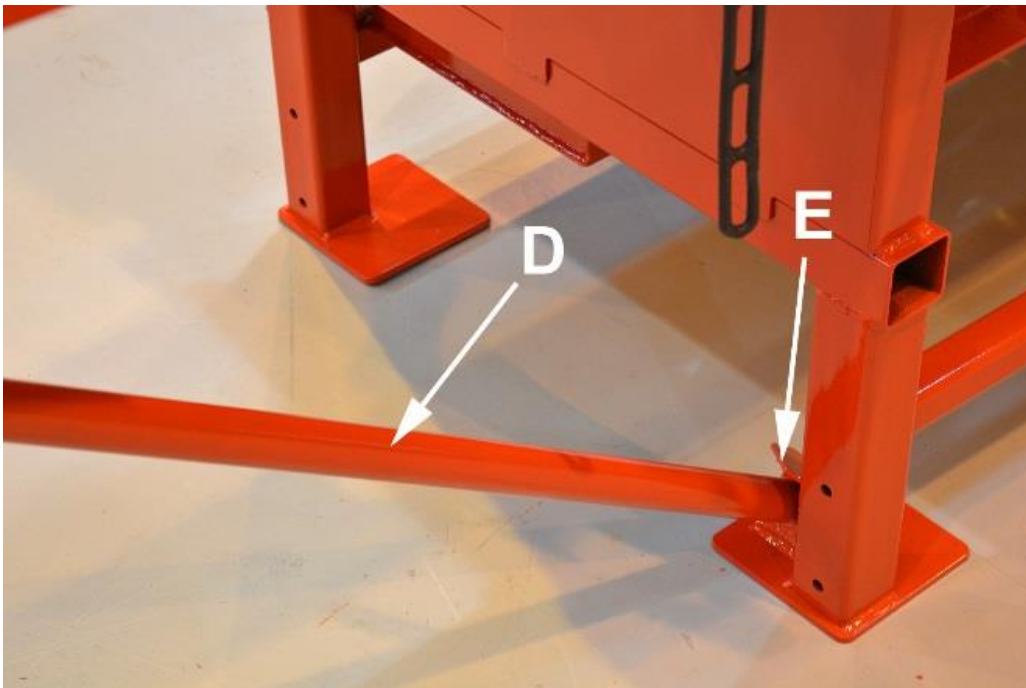

Figure 4.
4. Lower the in-feed conveyor with your left hand while simultaneously using your right hand to guide support leg D into slot E (Figure 4).